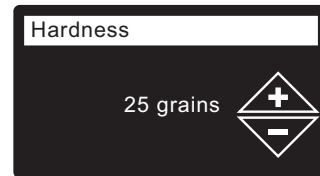

FIG. 31
- 7. HARDNESS** Press the UP (▲) or DOWN (▼) buttons to set the value of your water’s hardness (See Figure 31).